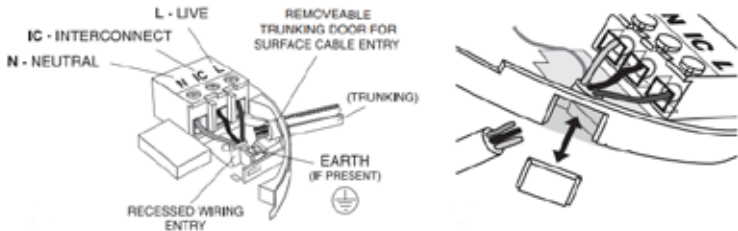

Figure 6 - VISALERT *PLUS* termination
- ii. the mounting plate has a removable section, take it out to interface directly with 25mm trunking as shown in RHS Figure 6.